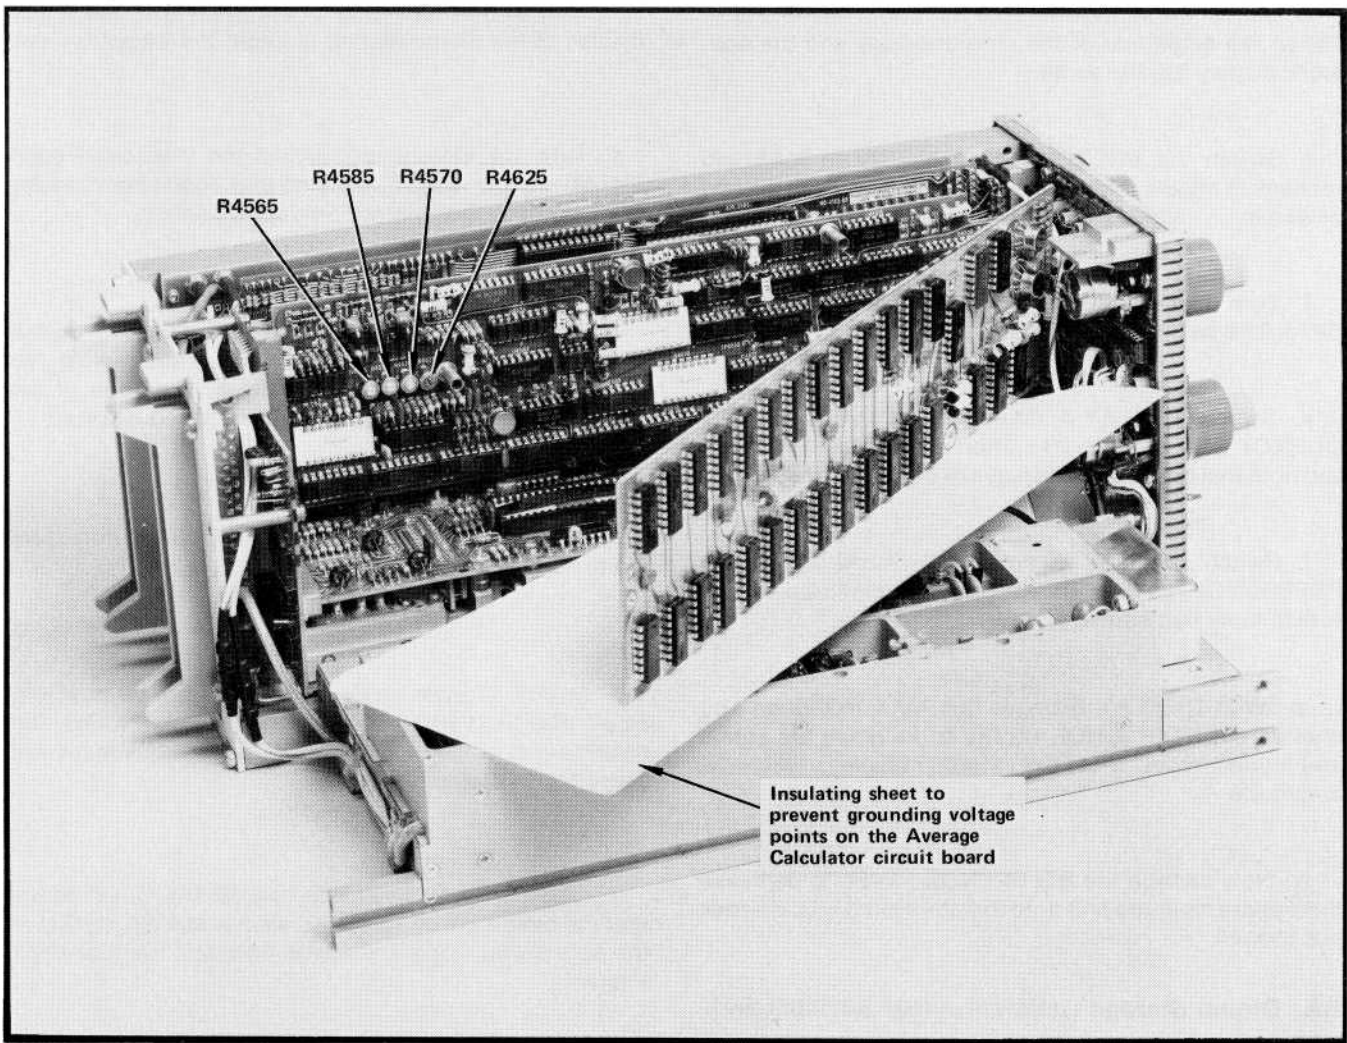

Fig. 4-20. Digital Storage test points and adjustments
a. Preparation: Turn the power off. Remove the Digital Averaging board to gain access to the adjustments on the Digital Storage board. Place the Digital Averaging board alongside or on top of the instrument with a piece of insulation material, such as a sheet of paper, between the back of the board and the instrument (Fig. 4-20). This will prevent accidentally grounding the exposed solder points on the circuit board.
d. Adjust R4585 (Fig. 4-20) slowly ccw, from a fully cw position, until all of the display (include the display edges) remain stored at the end of sweep. Turn R4585 slightly past this point to assure stability.
e. Increase the sweep rate to 10 ms or 5 ms, then adjust the Horizontal Offset with R4570 (Fig. 4-20) to place the stored 500 kHz marker under the frequency DOT. Check accuracy by switching the DIGITAL STORAGE off and on. The marker location for the non-store and stored displays should be the same.
f. Adjust the Horizontal Gain, with R4625 (Fig. 4-20), so the stored 4500 kHz marker is aligned with the non-store marker. Check the accuracy by switching the DIGITAL STORAGE off and on.
h. Adjust the storage Vertical Gain, with R4565 (Fig. 4-20) so the amplitude of the stored display and the non-store display are the same.